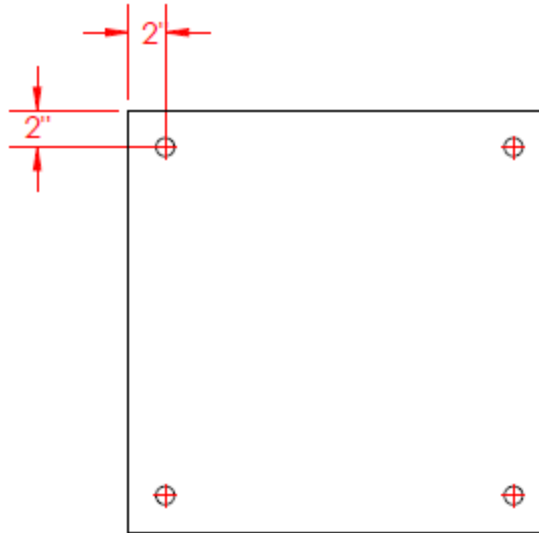

Figure 2: Applied Ceiling Tile
- 1) For horizontal application to increase acoustical performance, each 2'x2' or 2'x4' applied ceiling tile should be equipped with 4 1-1/4" long corkscrew hangers at each of the 4 corners of the back of the ceiling tile. Use the diagram shown in Figure 2 below as a guide.
- 3) Mark an even dispersion of suspension points on ceiling tile as shown in Figures 2 - 7. It is recommended to place 4 corkscrews into the rear of the mini, standard and large ceiling tiles, as shown.